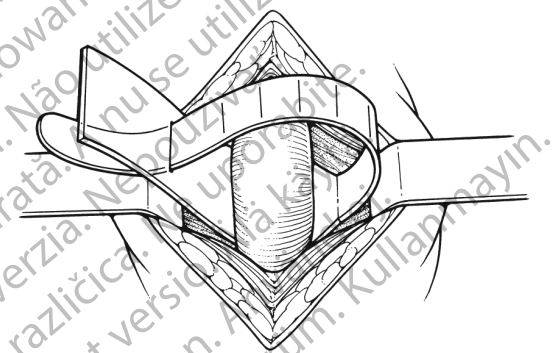

Figure 4-7. Measure Urethral Circumference
3. Place cuff sizer (or Penrose drain) around urethra where cuff is to be implanted. It should fit snugly without constricting urethra. (Figure 4-7)